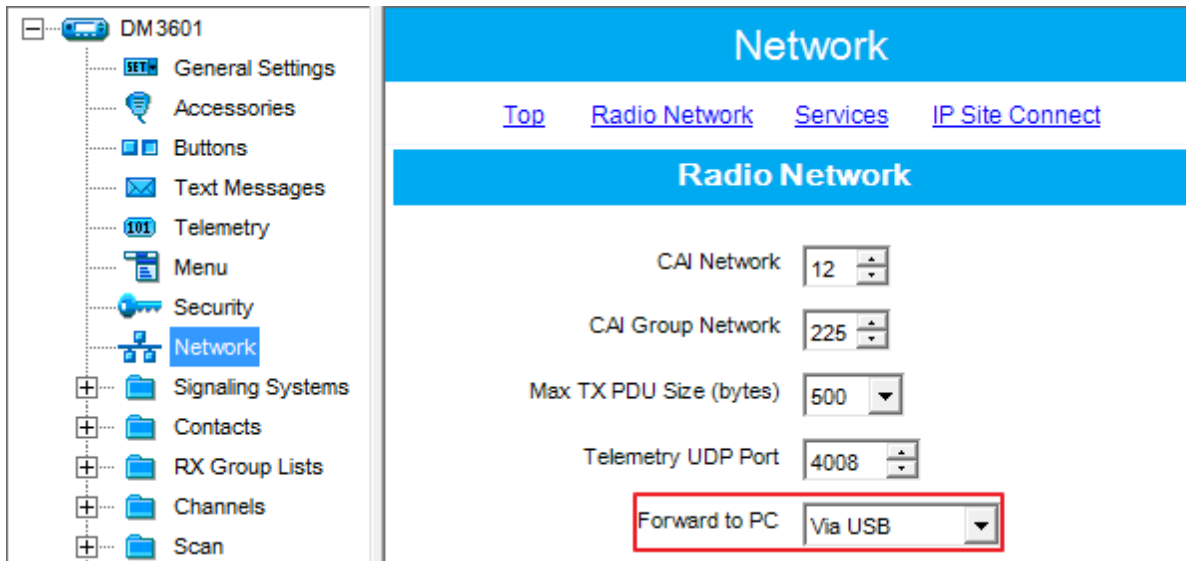

Fig. 11 - Selecting Forward to PC parameter
1. In the **Network** tab set **Forward to PC** to *Via USB* (Fig.11).